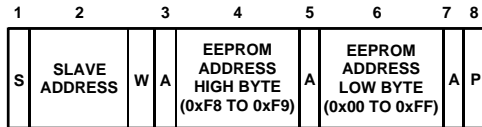

Figure 31. Setting an EEPROM Address
2. To set up a 2-byte EEPROM address for a subsequent read, write, block read, block write, or page erase. In this case, the command byte is the high byte of the EEPROM address from 0xF8 to 0xF9. The (only) data byte is the low byte of the EEPROM address. This is illustrated in Figure 31.